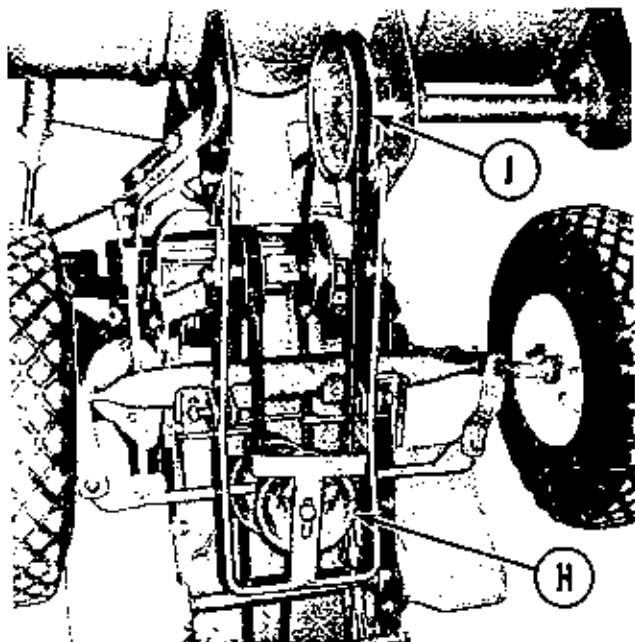

FIGURE 3
3. Position the belt in the groove of the hitch pulley (H). (See Figure 3). Then pull all slack forward to the left side and seat the belt around the auger drive pulley (J). The hitch pulley (H) can be moved in its slotted hole to provide slack. (See "Adjustments").